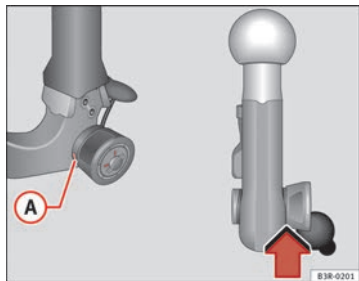

Fig. 172 Removable towing bracket: Safety check
- Check that the green marking **A** ⇒ Fig. 172 on the knob is inside the black zone marked on the ball joint.